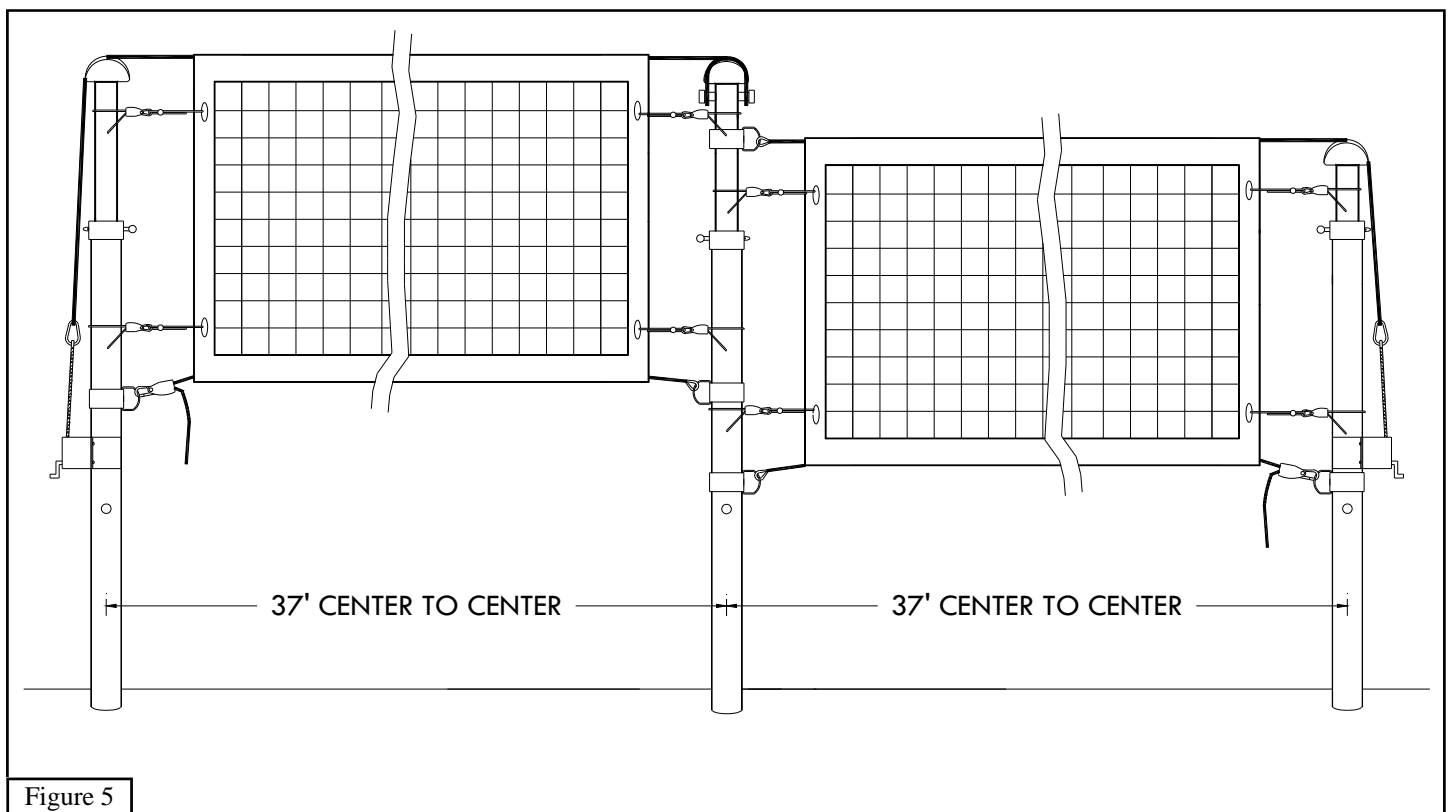

Figure 5
2. Attach one of the Nylon Net Collars (J) to the center *VB72 Standard* (A) toward the top. See Figure 5.
4. Adjust the *Nylon Net Collar* (J) on the center pole to the desired height for the second court and tighten.
5. Adjust the lower net court winch pole and tighten the *Winch* (H). See Figure 5.
7. Attach all *Rope Ratchets* (L) per previous instructions.
8. On multiple side by side court systems, the *Winch* (H) on the court adder poles should be placed above the collars so web strap will not interfere with bottom rope attachment.